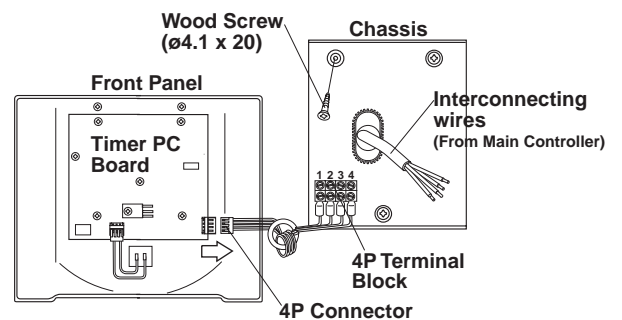

Fig.3-19 Attaching Sub Controller Chassis
2. Disconnect the **4P** connector from the timer PC Board. **(Fig.3-19)**
3. Route the interconnecting wires from the main controller through access hole of chassis and mount on the wall with three (ø4.1 x 20mm) wood screws. **(Fig.3-19)**
6. Reattach the **4P** connector to the timer PC Board **(Fig.3-19)**